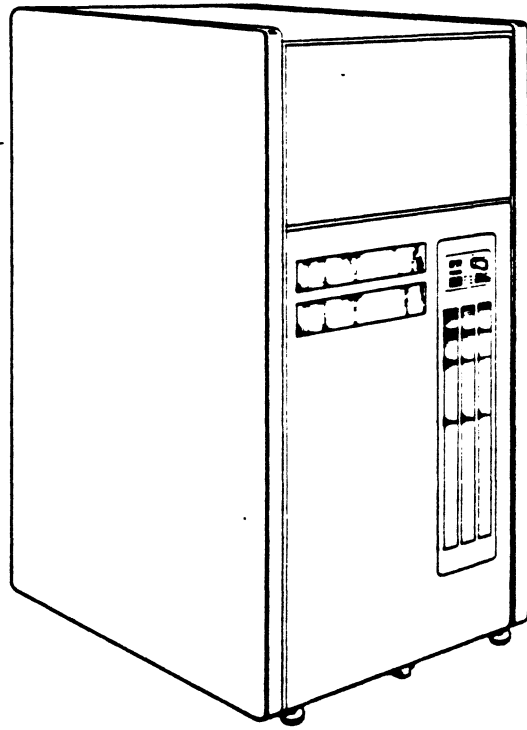

FIGURE 1-1 PDP-11X84 CABINET PRODUCT
- a. PDP-11X84: a kernel system configuration packaged in a 41-inch cabinet. (See Figure 1-1.) The top portion of the cabinet provides a 10.5-inch enclosure for installing peripherals.